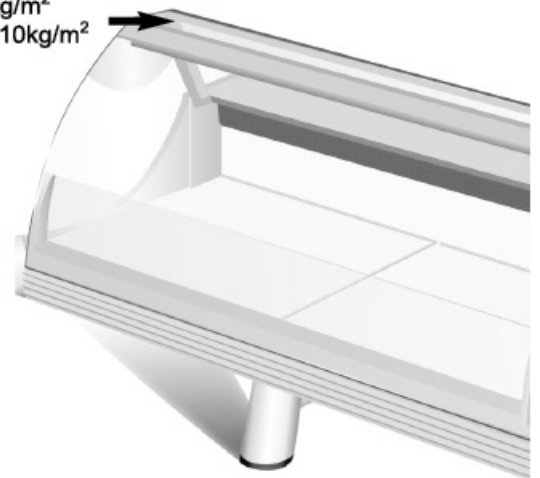

fig. 12
- Do not lay heavy weights on the superstructure (see page 6 - fig. 12).